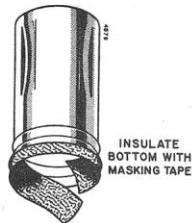

Figure 9. Special Tube Shield for IF Alignment and IF Response Curve Check.
3. SPECIAL TUBE SHIELD: For injecting 21MC or 41MC IF Signals, use an insulated tube shield over the VHF Oscillator-Mixer tube. Insulate bottom of tube shield with masking tape, see figure 9.
- Connect generator high side to insulated tube shield for 6J6 (V102); connect low side to chassis near tube shield. See figure 9.